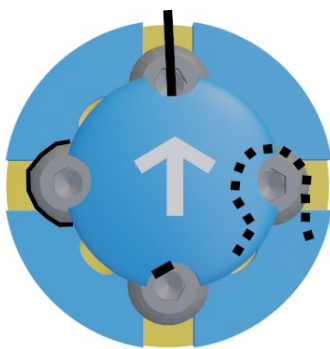

Figure 5.61: Flexion end: Rotation around the bolt
1. Pull the tendon until it is taut, without moving the position of the controlled finger, and rotate it around the right bolt with a clockwise rotation around it (figure 5.61).